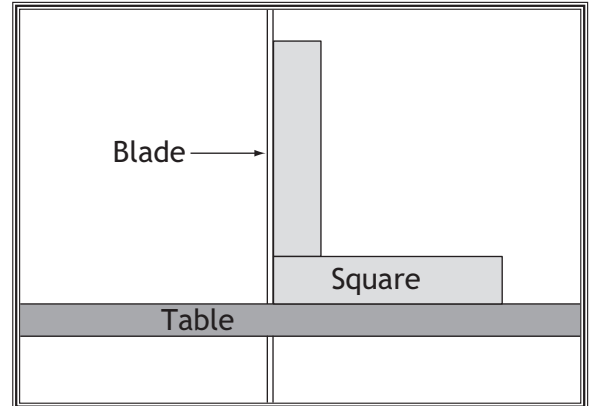

Figure 95. Example of checking guide post squareness.
3. Place machinist's square on table next to right-hand side of guide post, as shown in **Figure 95**.